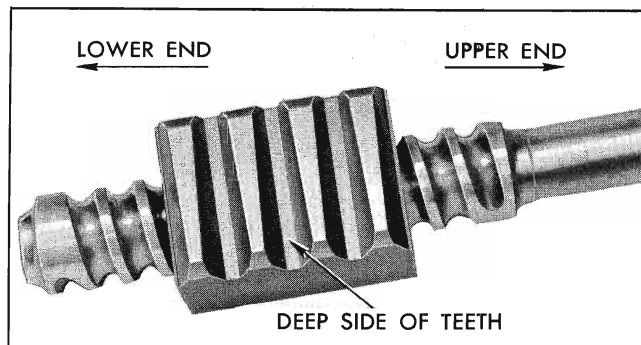

Fig. 9-34 Ball Nut Properly Installed on Shaft
1. Position ball nut on shaft so that deep side of teeth are located as shown in Fig. 9-34.